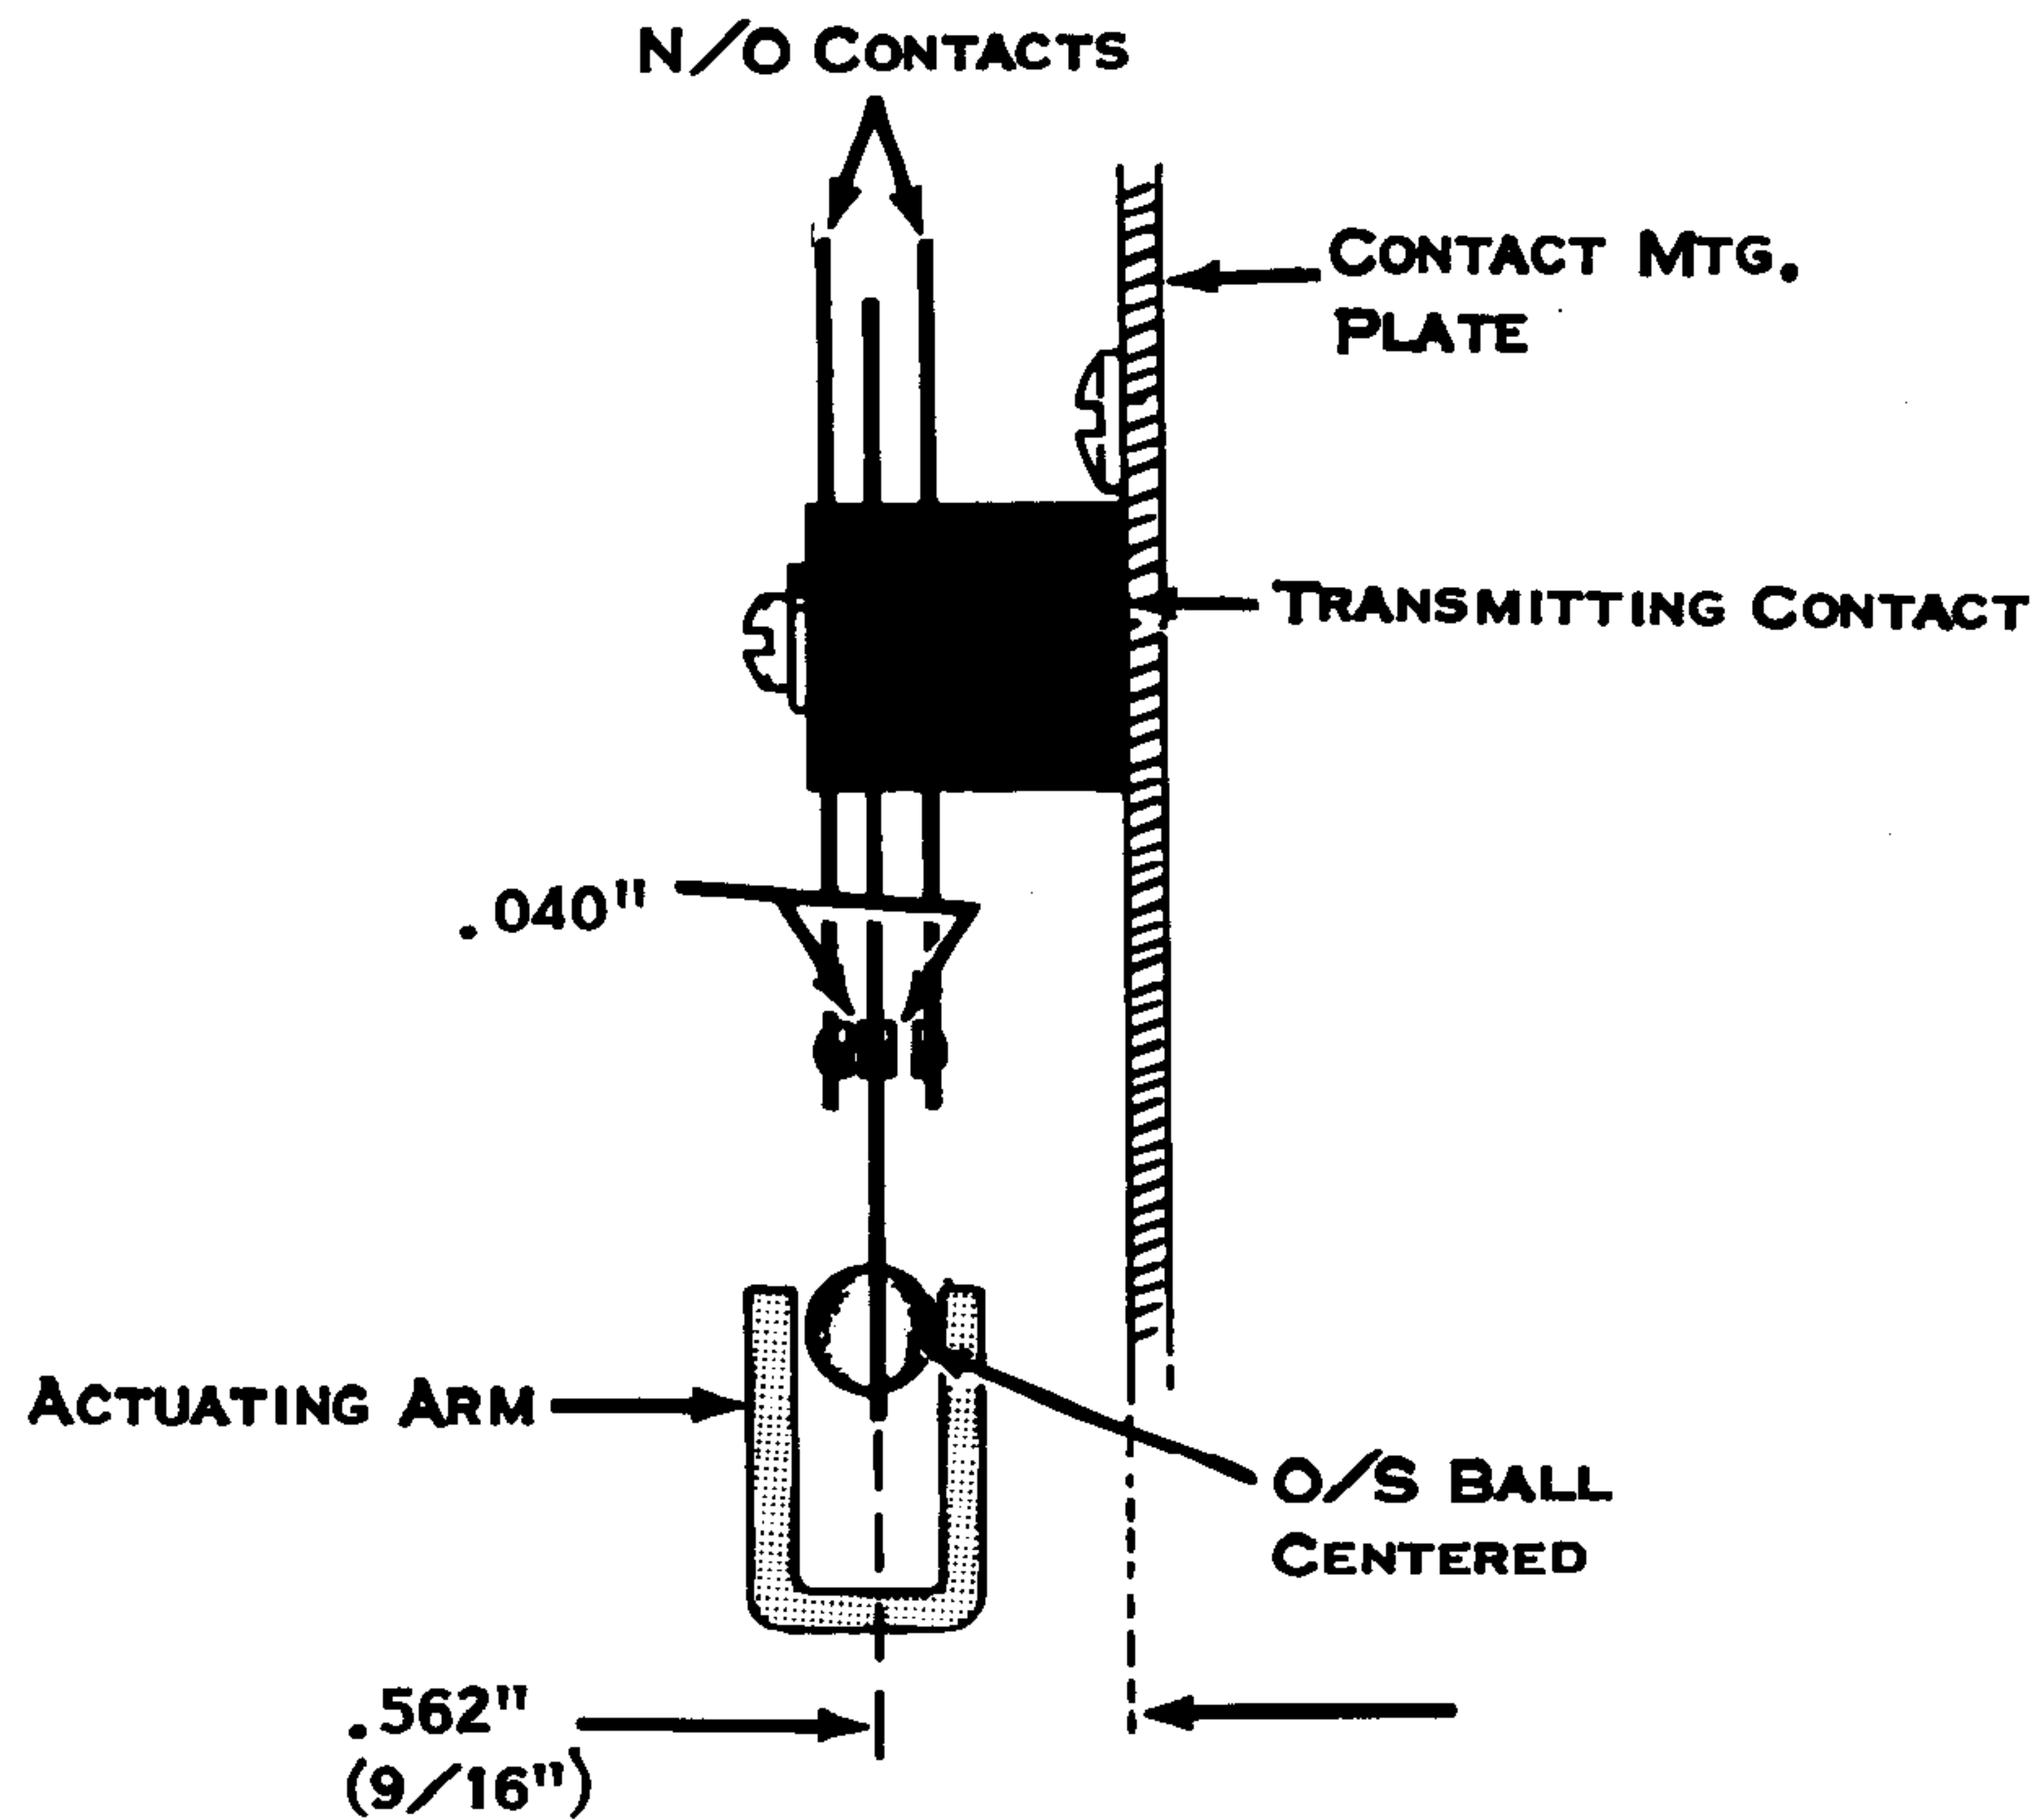

Figure 103. Contact Actuating Arm
- Contact Actuating Arm (Fig. 103) - Position (with the cam follower roller held against the detented shift cam) so that the O/S ball is centered between the actuating arm tabs.
- Transmitting Contacts Air Gap (Fig. 103) - Form the N/O contacts to clear the O/S's by  $.040"$ .